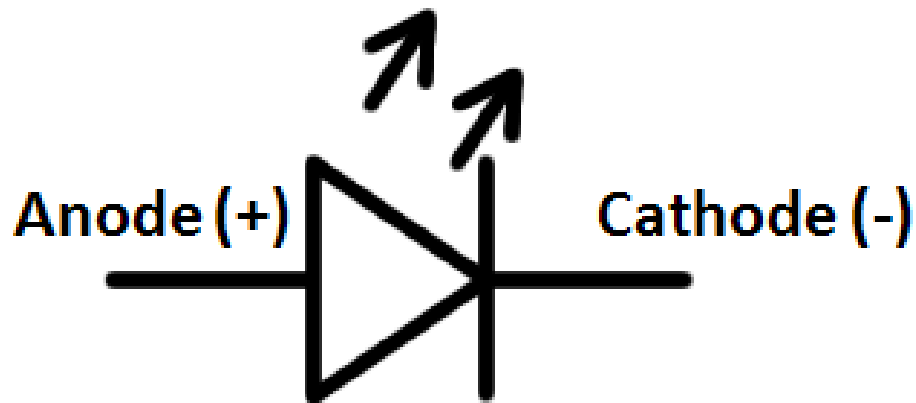

Figure 25: Light Emitting Diode (LED)
- a. Show the symbol of the LED in Figure 25